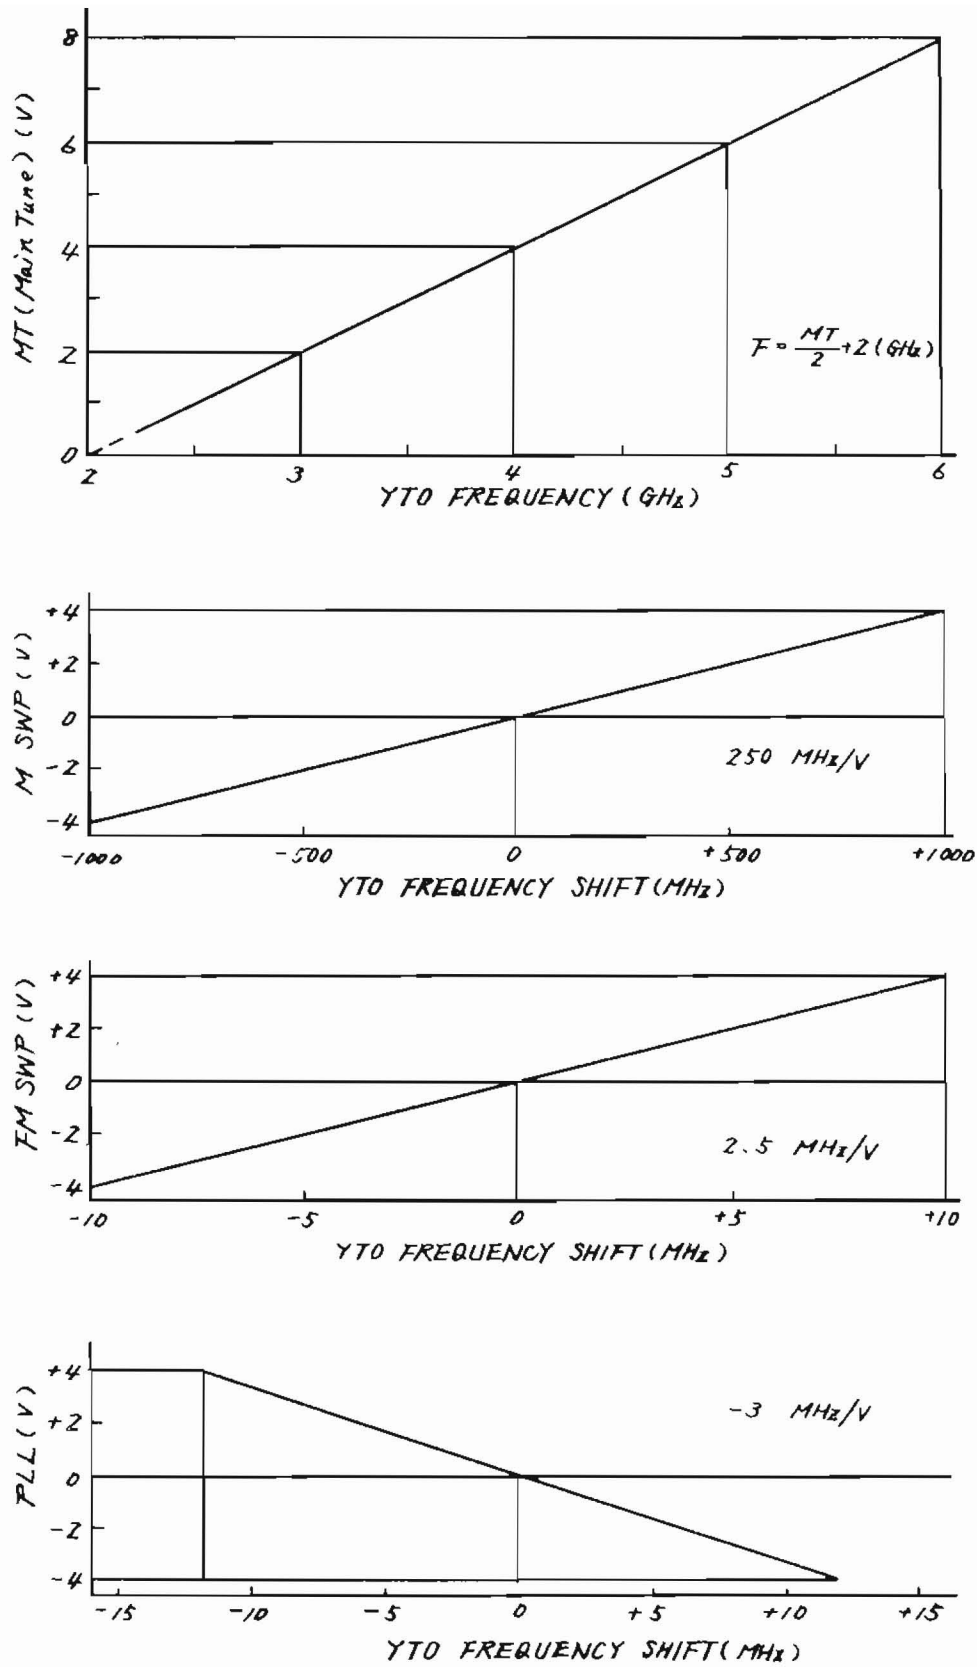

Fig. 5-10 YTO Frequency vs Control Voltage
(Refer to Fig. 3-3 (1/4), Fig. 3-3 (4/4), Figs. 5-10 to 5-17)
A frequency sweep in the start/stop mode, in which the sweep width exceeds 2 GHz, is performed by directly varying the MT signal. (See Fig. 5-10, and 5-12.)
When the SPAN ranges from 200 MHz/div to 2.1 MHz/div in the fundamental mixing range, the main tune (MT) signal is fixed to the value corresponding to the center frequency. A sweep is performed by adding the main sweep (MSWP) sent from Z21 through Z10-J2 to the main coil driver circuit. (See Figs. 5-10 and 5-14.)
When the SPAN ranges from 2.0 MHz/div to 101 kHz/div in the fundamental mixing range, the MT is fixed to the value corresponding to the center frequency and MSWP is fixed to 0 V. Sweeps are performed by FM coil sweep (FM SWP) signals. The FM coil driver circuit converts FM SWP signals into YTO FM coil drive current. (See Figs. 5-10 and 5-15.)
Consequently, the local frequency is obtained through driving the YTO FM coil by using these PLL signals. (See Figs. 5-10 and 5-15.)
The relationship between YTO/YTF tuning, sweep control signals, and frequencies are shown in Figs. 5-10 and 5-11.